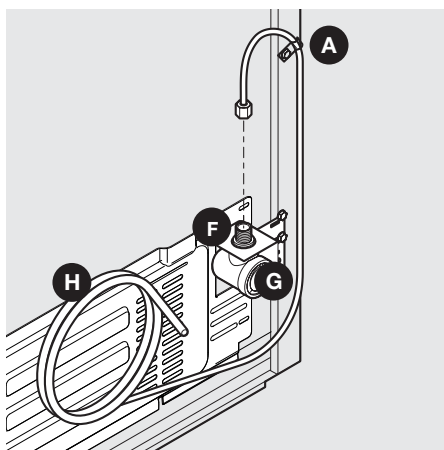

Figure 2
**If you use braided flexible stainless steel tubing** - The nut is already assembled on the tubing. Slide the nut onto the valve inlet and finger tighten the nut onto the valve. Tighten another half turn with a wrench; **DO NOT** over tighten. See Figure 2.